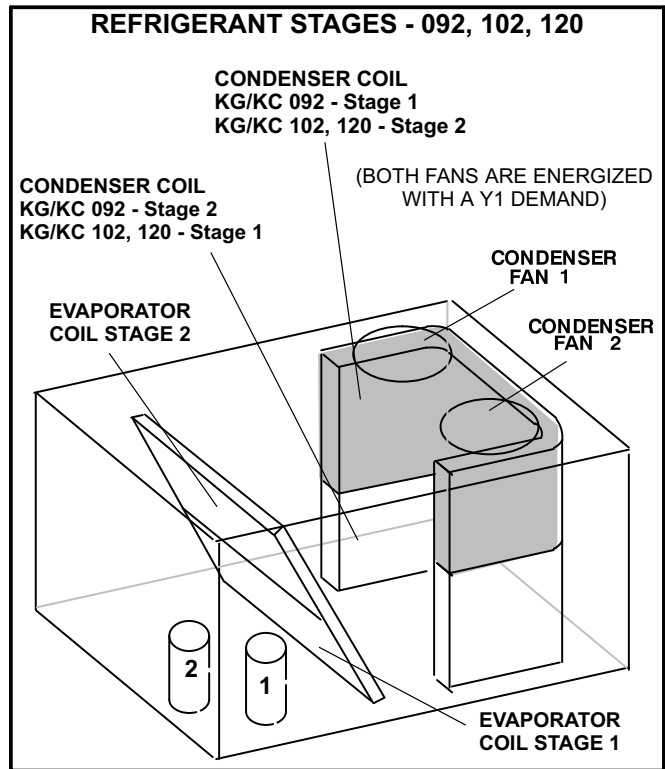

FIGURE 18
- 3- Units contain two refrigerant circuits or stages. See figure 18 or 19.